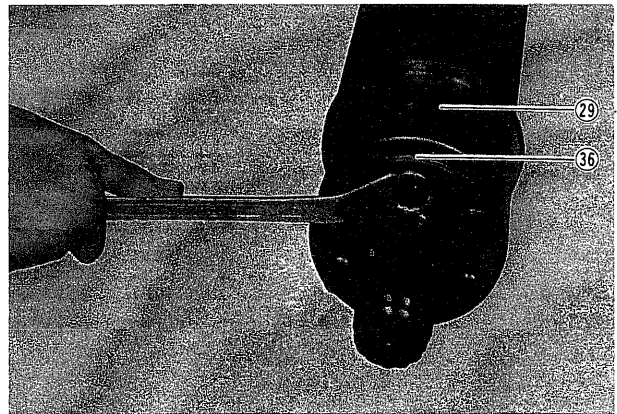

Fig. 85
- Take off flange (36) from eccentric shaft (29). (Fig. 85)